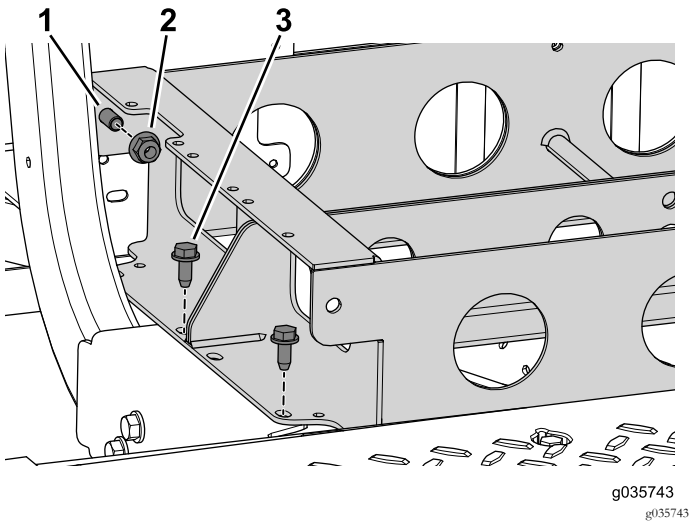

Figure 60
- Remove the 4 bolts securing the battery tray to the machine (Figure 60).
- Remove the 2 flange nuts, but not the 2 bolts, that connect the front and rear battery tray (Figure 60).